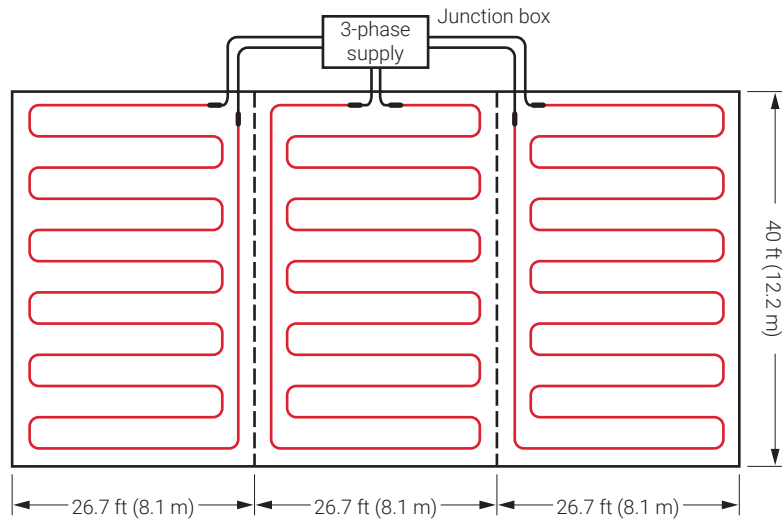

Fig. 16 Typical three-phase heating cable layout for heat loss replacement
A single heating cable may be sufficient for small floor areas. For large floor areas, it may be necessary to divide the area into two or more equal subsections (Fig. 17 on page 30). For a three-phase voltage supply, divide the total area into three equal subsections (Fig. 16 on page 27) or a multiple of three equal subsections when more than one circuit is necessary. If expansion joints will be used in the floor, divide the area so that the heating cables will not cross any expansion joints.
- Divide the total heated floor area into three equal subsections (Fig. 16) or a multiple of three equal subsections when more than one circuit is necessary.
Subsection area	3200 ft ² / 3 = 1067 ft ² (see Fig. 16) 297.4 m ² / 3 = 99.1 m ²